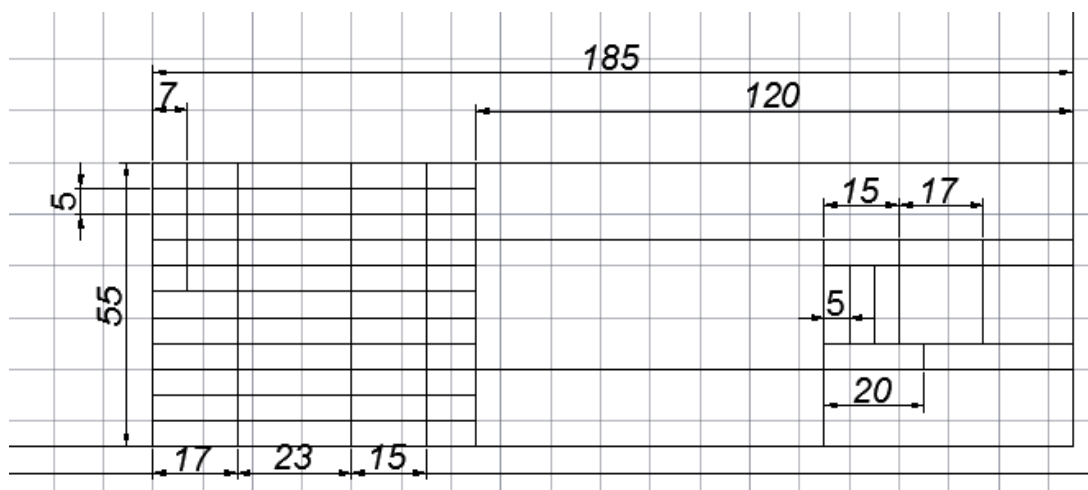

Figure 2.5 – Drawing line segments
2.2.5 There should be a title block table at the bottom left of the drawing. The title block table includes segments, for construction of which we use the Line tool from the Draw panel. Before that, in the state of the command line, enable the Ortho mode. After selecting this tool, the program in the lower command line will ask you to specify the coordinate of the starting point. Enter the value (415.5) and press the "Enter" key. Point the mouse vertically up, enter a value of 55 and confirm "Enter". Then, from the same point, give the direction to the mouse - horizontally to the left and set the length value equal to 185, "Enter". We continue to build the missing segments further. The dimensions are shown below (figure 2.5).